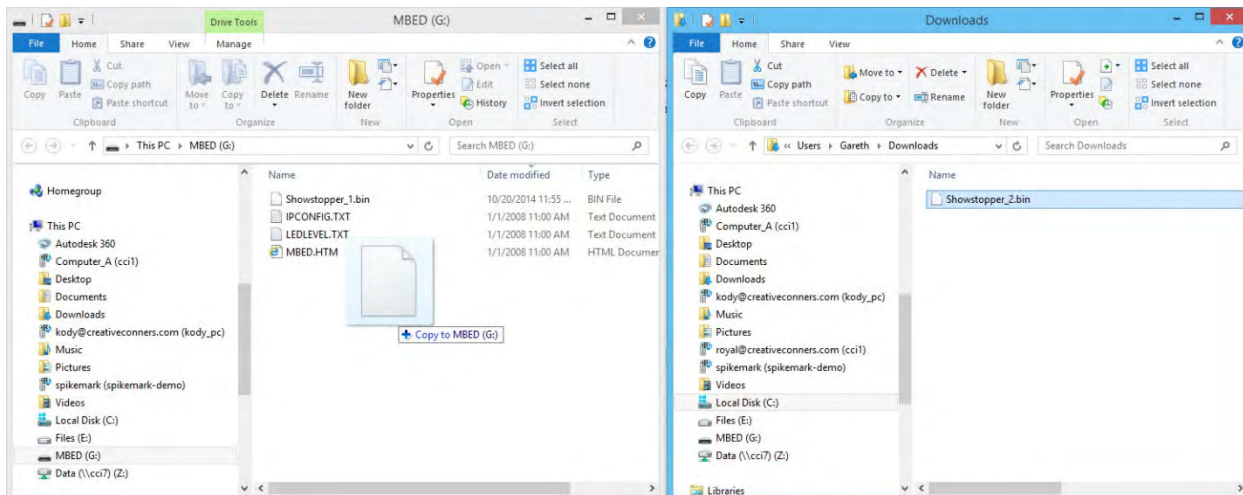

Figure 54
6. Drag the firmware file that you downloaded onto the MBED drive (Figure 54).